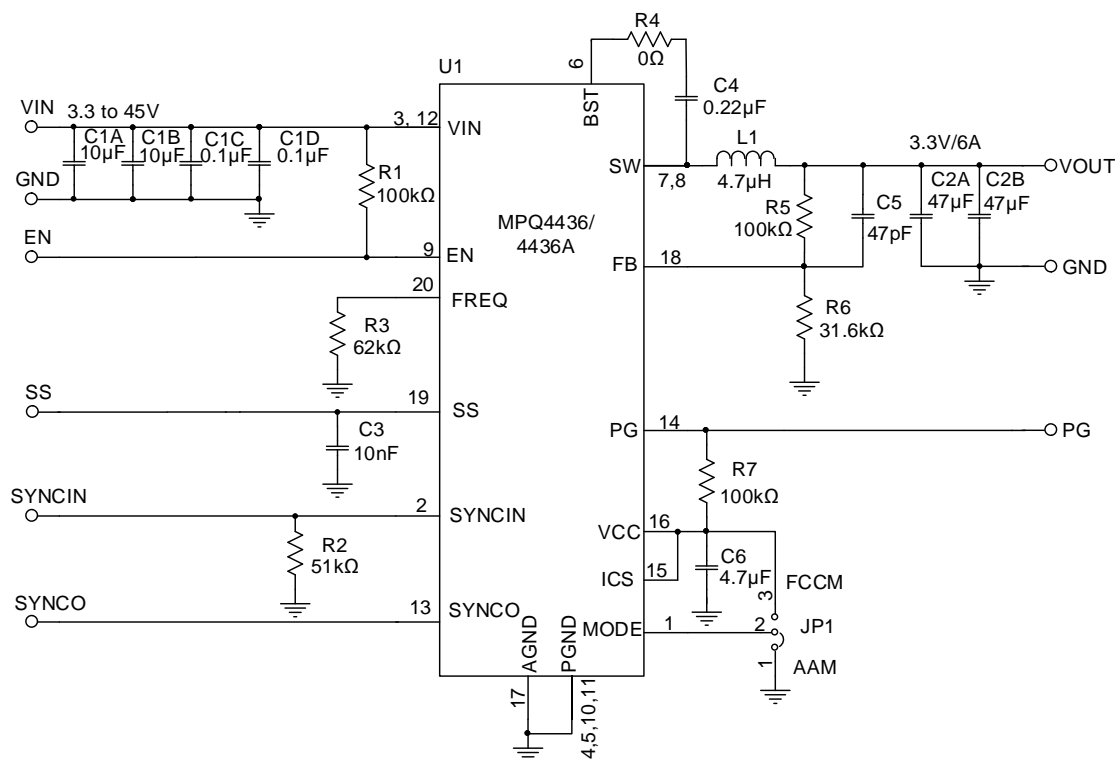

Figure 13: Single-Phase, V_{OUT} = 3.3V, f_{sw} = 470kHz
- 6) The recommended PCB layout is based on Figure 13.